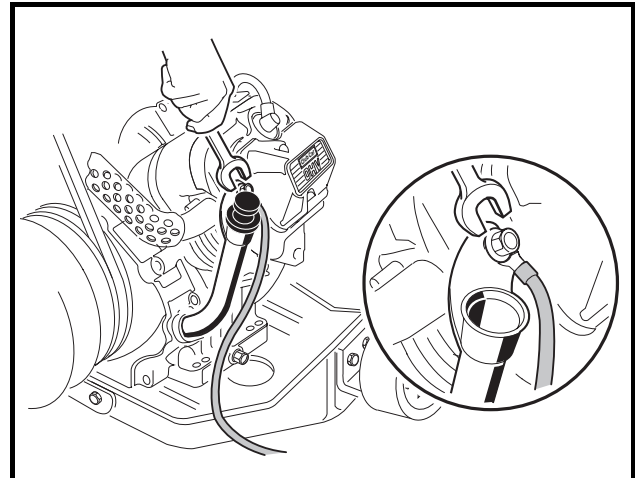

Figure 16-49 Engine Ground Wire
24. Attach the ground wire to the mounting screw on the oil filler tube mounting bracket and tighten to 50 in-lb (5.7 N·m) (**Figure 16-49, Page 16-20**).